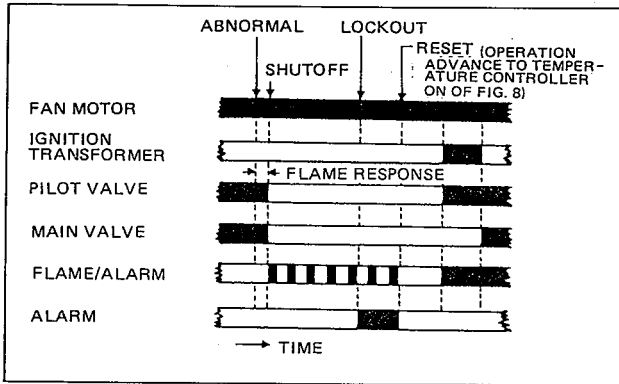

Fig. 10 Flame failure during burner is running
3. Flame failure during burner is running (see Fig. 10)